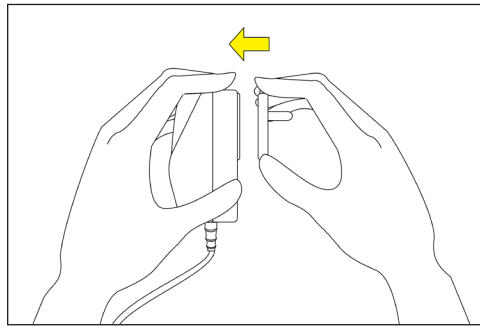

Figure 8. Install the plug adapter.
- (c) Install the proper power outlet plug adapter onto the ac adapter. See Figure 8.